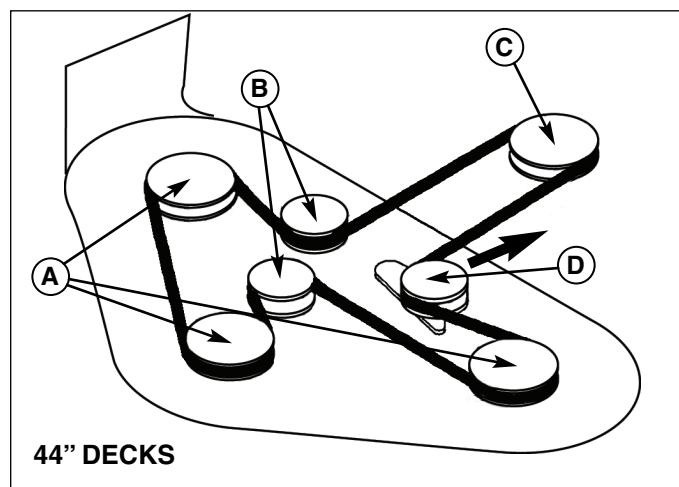

Figure 10. Mower Belt Routing
3. Pull back on the tensioning idler (D, Figure 10) in the direction indicated by the arrow, and remove the mower belt from the PTO pulley (C).
7. Pull back on the tensioning idler (D, Figure 10) in the direction indicated, and install the belt onto the PTO pulley as shown in Figure 10.